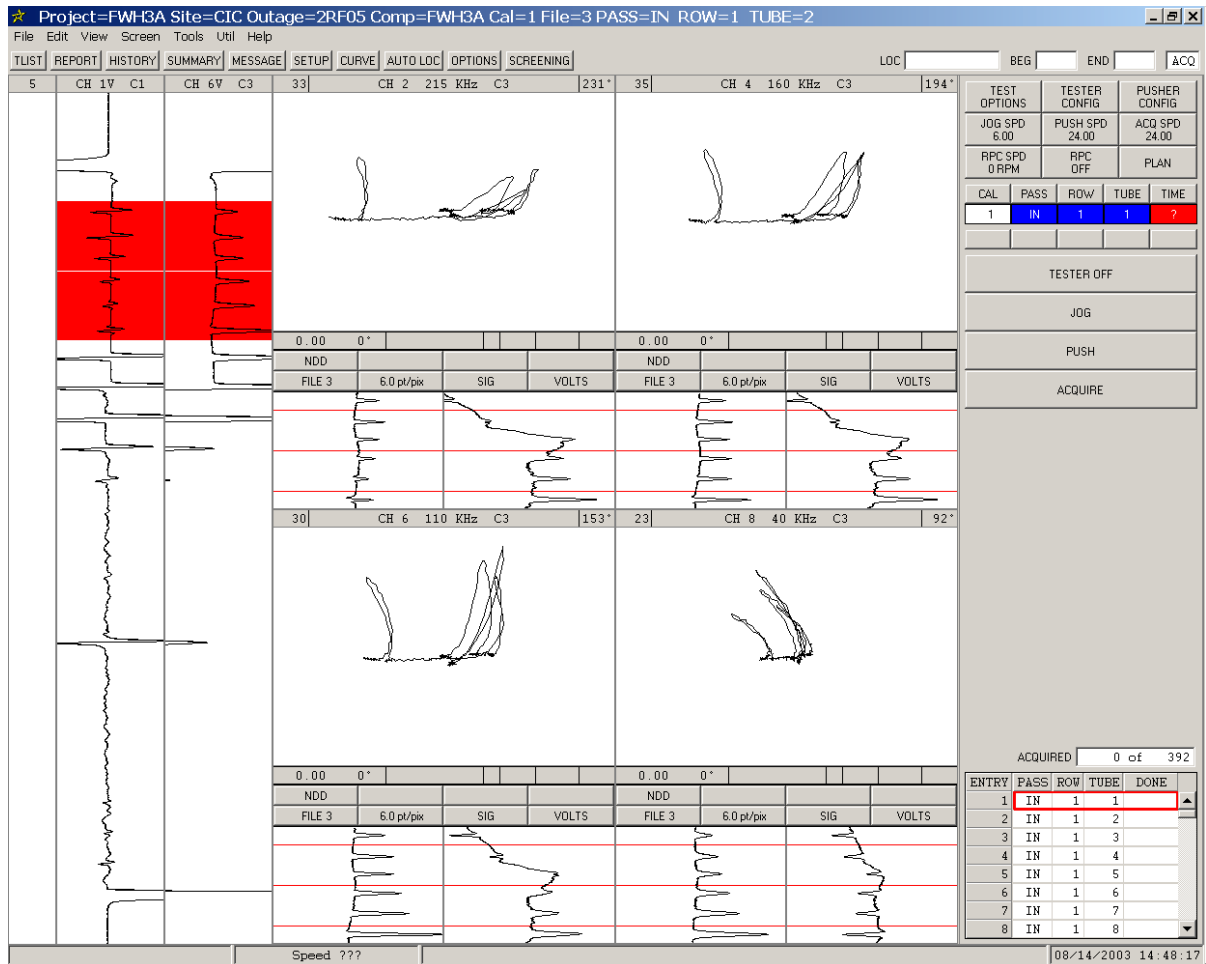

Figure 10-15. Acquisition Screen - Absolute Channel Setup
- STEP 21:** Repeat the applicable preceding steps, but this time set the rotation of the lift-off signal horizontal (*flat*) for channels 2, 4, 6, and 8. The final result for all absolute channels should be *lift-off horizontal with flaws going up* as shown in Figure 10-15.